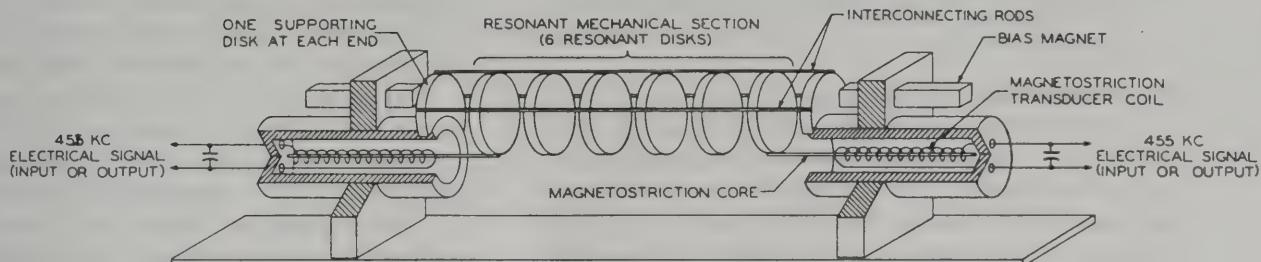

Figure 4-2. A Collins Mechanical Filter, Functional Diagram
**MECHANICAL FILTER.** The functional diagram of the Collins Mechanical Filter is shown in figure 4-2. The mechanical filter uses the principle of magnetostriiction to convert electrical energy to mechanical vibration. The magnetostriiction transducer input coil is resonated at 455 KC. A helical wire within this coil vibrates mechanically and transmits this mechanical energy to the first of a series of nickel alloy discs. The mechanical vibration of this first disc is coupled to succeeding